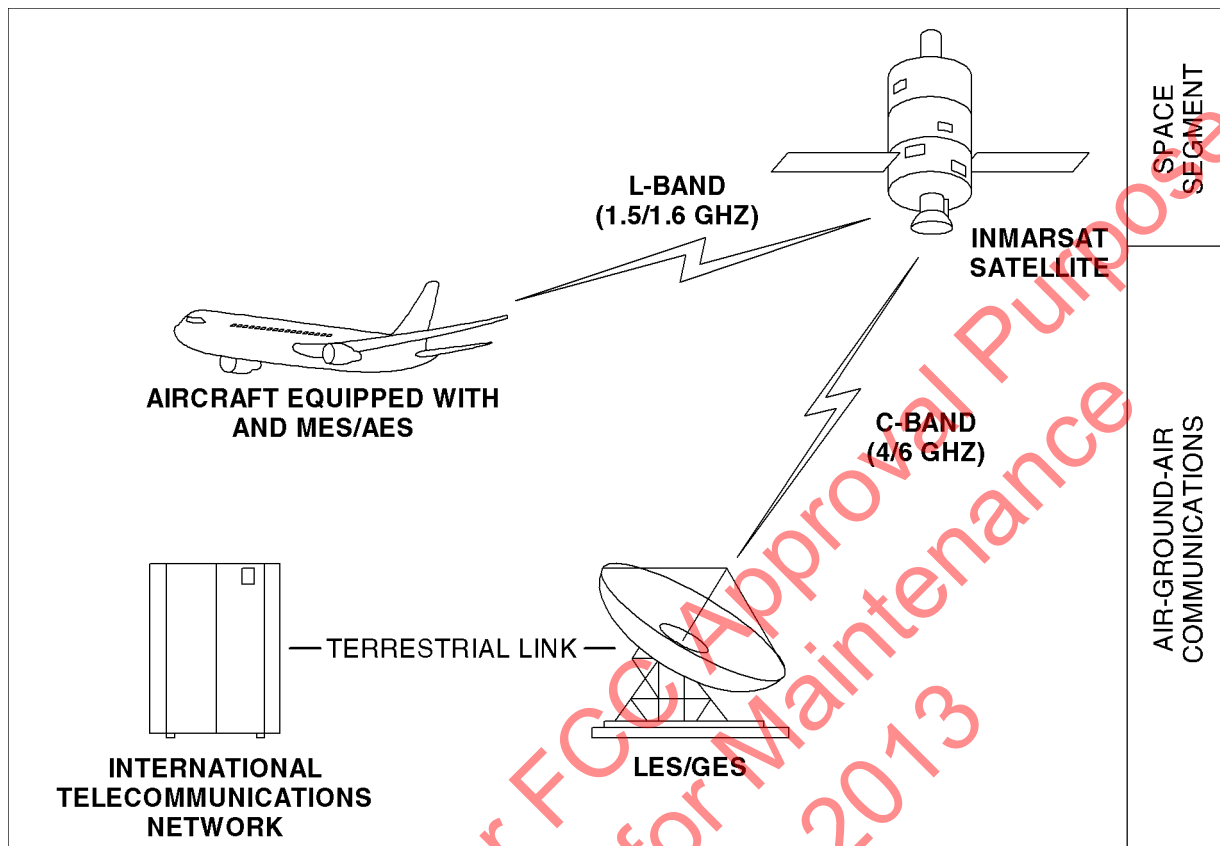

Figure 9. (Sheet 1 of 1) Simplified Aeronautical Satellite Communications System
- (5) All I-3 satellites give worldwide telecommunication services for aviation, shipping, and land-mobile terminal users. The satellites connect to ground telecommunication systems through a network of GESs.
- (6) In addition to the services offered by I-3 satellites, the I-4 satellites also give worldwide broadband service, SBB. Each I-4 satellite has 19 wide spot beams, 228 narrow spot beams, and is capable of accommodating many different, simultaneous SBB sessions. The SBB service and I-4 satellites support broadband applications such as videoconferencing and video-streaming.
- (7) At the time of publishing, three I-4 satellites are operational:
- (8) The satellite communication avionics (ARINC 781 systems), typically in conjunction with an antenna subsystem, act as an AES/MES. The combined system provides users with a data and voice communications link to the satellite network and global telecommunications system.
- (9) A simplified satellite communications system is shown in Figure 9 (GRAPHIC 23-15-30-99B-809-A01).